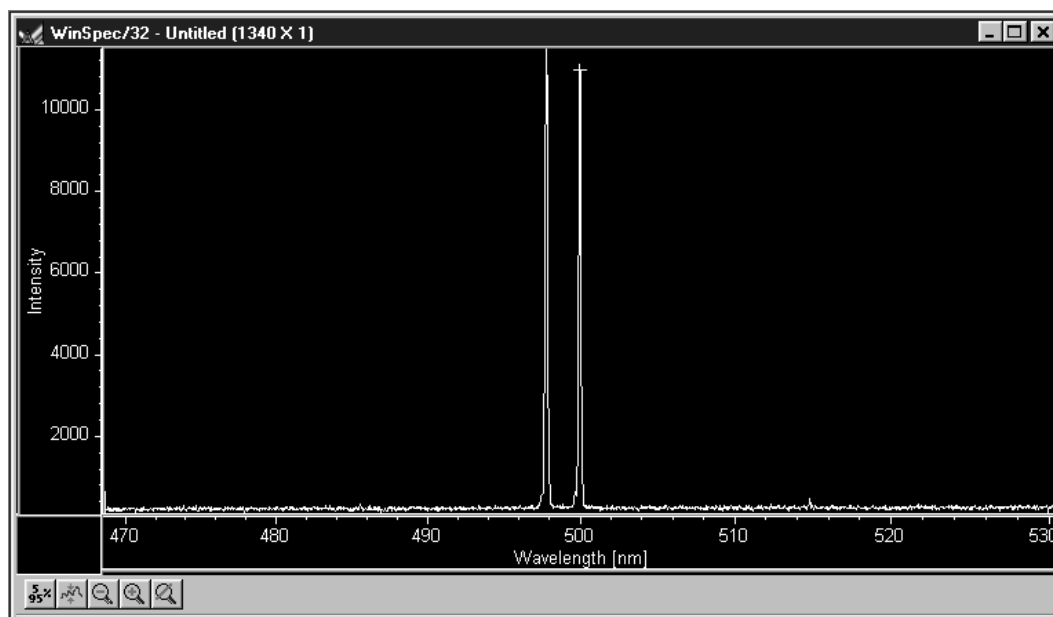

Figure 72. Calibration Adjust spectrum
4. Figure 72 illustrates a typical Adjust data acquisition. The reference peak should appear near the center of the display and the cursor should be near or on the highest point of the peak.